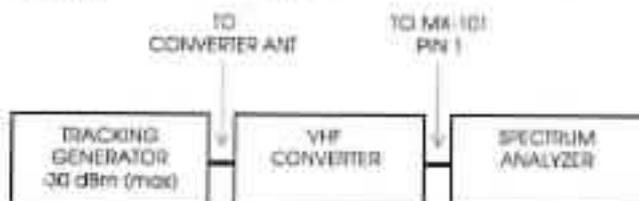

Figure 3
1. Connect a Spectrum Analyzer and Tracking Generator to the VHF Converter so that the Tracking Generator output connects to the Converter Antenna input jock (J-103) and the Spectrum Analyzer input connects to pin 1 of mixer MX101. (See Figure 3).